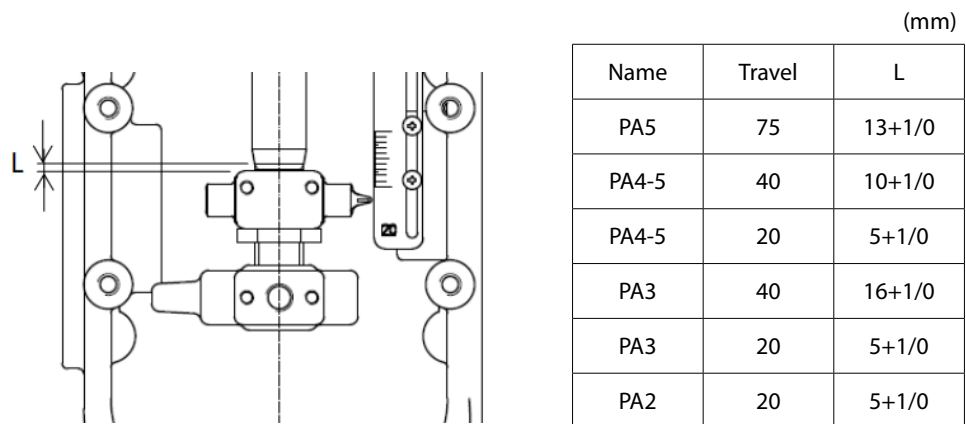

Figure 6-16. Pointer assembly position
2	Screw the pointer (#222) onto the rod (#220), and adjust the tip of the pointer so it points toward the scale and is set at the height shown in Figure 6-16.
1	<p>Apply the agent specified below to the parts. The application area is indicated in square brackets.</p> <p>(1) Lever (#321) [surface of the holes that contact the boss of the pointer and the boss of the lever drive nut]: anti-seizing agent^{*2}</p> <p>(2) Shaft (#325) [entire surface of the threads that are engaged with the lever drive nut]: anti-seizing agent^{*2}</p> <p>(3) Hex nut (#301) [bottom]: anti-seizing agent^{*2}</p> <p>(4) Hex bolt (#305) [threads, bottom]: anti-seizing agent^{*2}</p> <p>(5) Stud bolt (#316) [entire surface of the threads that are engaged with hex nut #314]: anti-seizing agent^{*2}</p> <p>(6) Hex nut (#314) [bottom]: anti-seizing agent^{*2}</p> <p>(7) Round bushing (#312, #323, #330) (4 pieces, figure 6-16) [inner side]: lubricant^{*1}</p> <p>(8) Thrust bearing (large and small) (#324, #329) [inner side]: lubricant^{*1}</p> <p>(9) Hex bolt (#313, #317) [threads, bottom]: anti-seizing agent^{*2}</p>